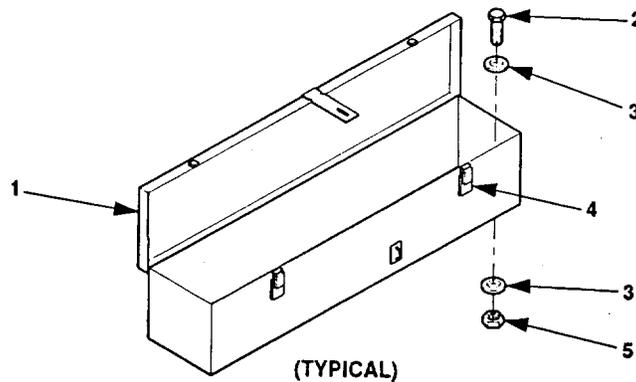

Figure 4-19. Replace Accessory Box.
1. Release clamping catches (4, figure 4-19) and open accessory box cover (1).
- 1. Position accessory box (1, figure 4-19) over mounting holes in trailer.
- 2. Install flat washers (3), machine bolts (2), and self-locking nut (5).
- 4. Close accessory box cover and secure with clamping catches (4).